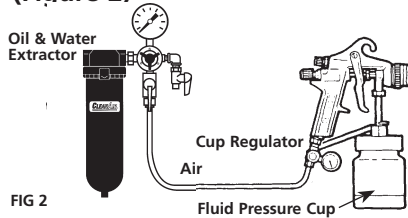

FIG 2
**PRESSURE CUP HOOKUP (Figure 2)**